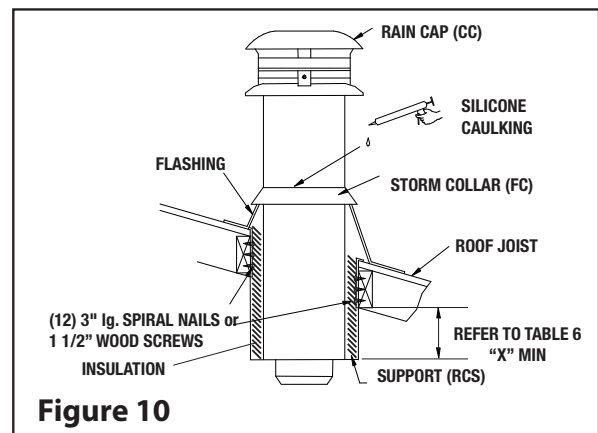

Figure 10
Step 3: Use a level to ensure the support is vertical. If the support extends above the roof, cut it flush with the top of the roof. Attach the support to the framed opening using (12)-3” spiral nails or #8 x 1 1/2” wood screws (see Figure 10).